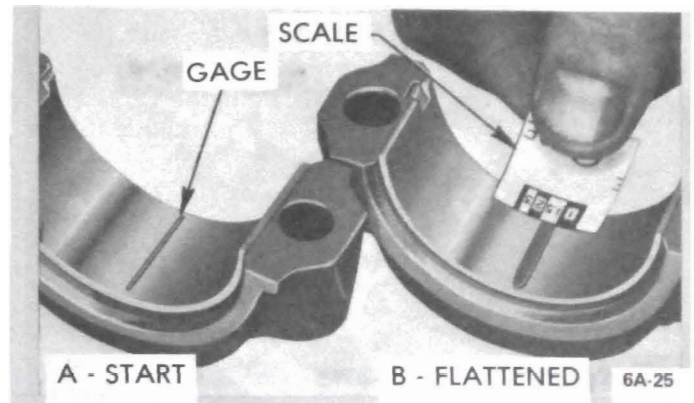

Figure 6A-18 Checking Bearings with Plastic-Type Gage
2. Place a piece of Plastigage lengthwise along the bottom center of the lower bearing shell (Figure 6A-18, View A). Install cap with shell and tighten bolt nuts to 35 lb. ft. torque.
The number within the graduation which most closely corresponds to the width of Plastigage indicates the bearing clearance in thousandths of an inch. See Figure 6A-18, View B.